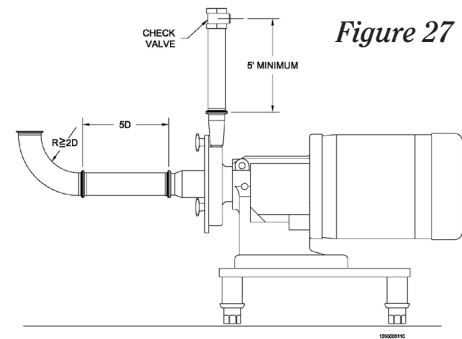

Figure 27
- Avoid elbows in the suction line if possible. When necessary they should be located 5 pipe diameters away from the pump inlet, and have a bend radius greater than 2 pipe diameters (Figure 27).
- Check valves in discharge line should be a minimum of 5 ft. away from the pump outlet (Figure 27).